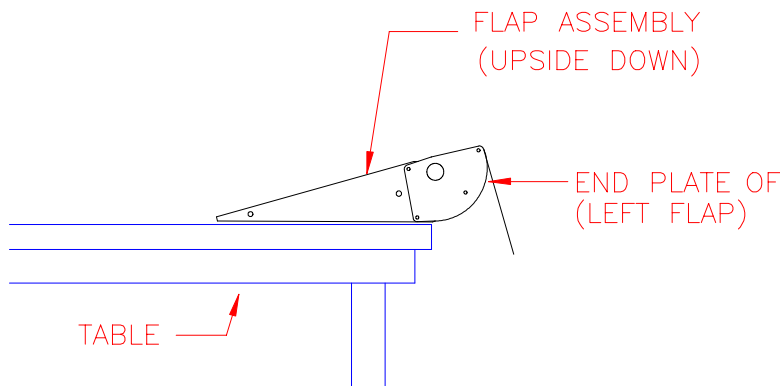

Figure 6.4.1
1) Lay the Flap on the table as shown in figure 6.4.1. Slip the spar/ rib assembly into the Flap Skin and cleco the #1 Main Flap Rib hole in the skin into the hole drilled in step #19. Be certain the center lines on the rib flanges are visible through the pre-punched holes in the flap skin.